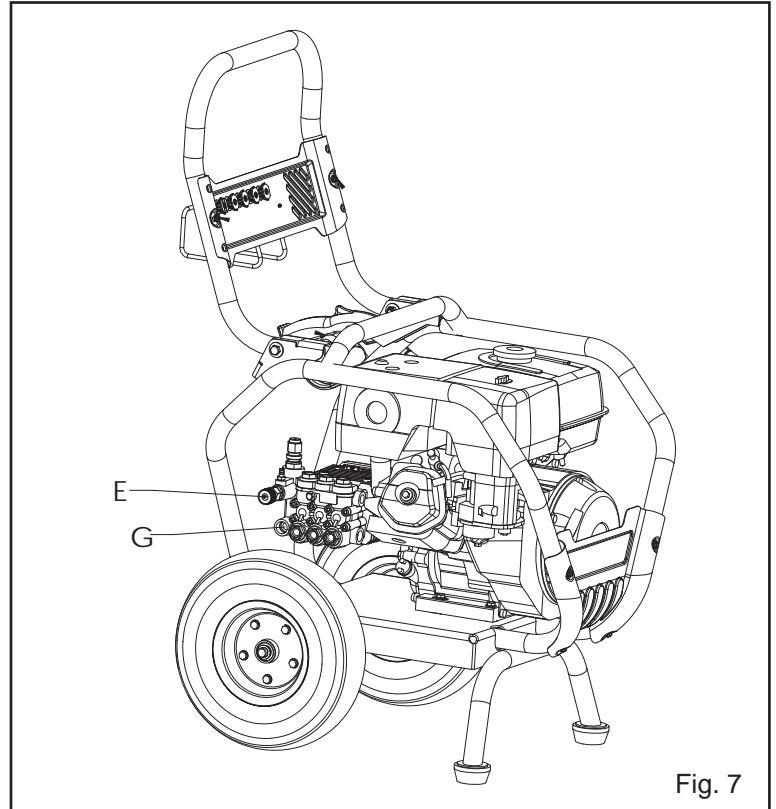

Fig. 7
1. Make sure the chemical hose is pressed onto the barbed fitting (G) located near high-pressure hose (E). (Fig. 7)